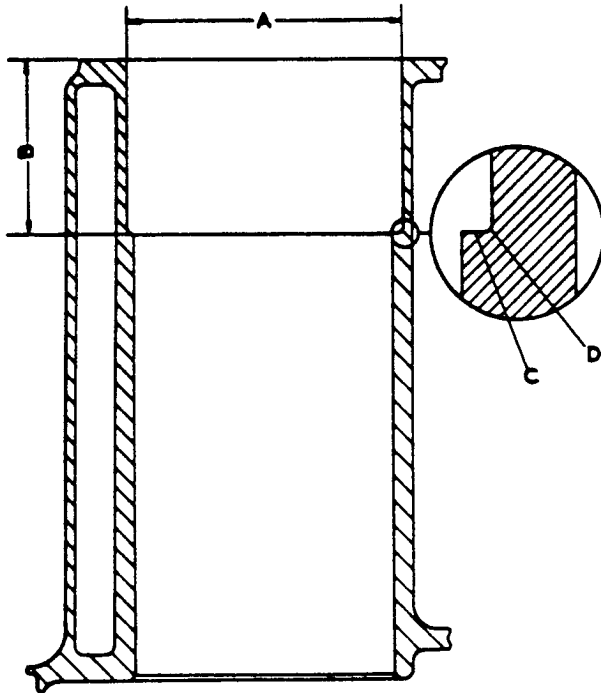
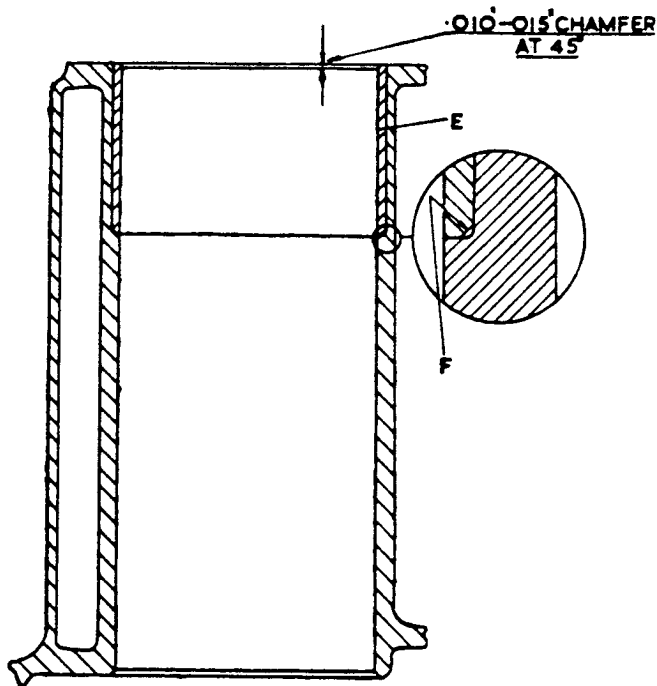

FIG.1. SECTION - CYLINDER-SHOWING COUNTERBORE.
FIG.2. SECTION - CYLINDER - SHORT LINER IN POSITION.
(1) To assist in obtaining the required interference of .0025" to .0035" (.06 to .09 m/m) between the liner and the cylinder counterbore, 'A' Fig.1, the liner RE-6017, is colour coded (graded) in the bore as follows:-
cylinder bore. Next, adjust the boring cutter so that the first cut is heavy enough to get underneath the original chromium plating and counterbore the cylinder to a depth of 2.245" to 2.250" (57.02 to 57.15 m/m). See 'B' Fig.1.
The bottom face, 'C' Fig.1, of the counterbore must be machined perfectly true. Any slight discrepancy on this end will cause a gap on one part of the "butt" joint.
- (v) Before pressing in the liners, ensure that the radius, 'D' Fig.1, is smaller than the chamfer ('F' Fig.2) on the lower end of the liners, so that there will be no interference at the butt joints when the liners are pressed fully home.
NOTE: If, when measuring the diameter of a counterbore ('A' Fig.1), it exceeds 3.6265" (92.11 m/m), it will be necessary to fit an R-4610 oversize short liner. This liner is marked with white paint and has an external diameter of 3.631" to 3.632" (92.23 to 92.25 m/m), and one should be selected that will not allow an interference exceeding .004" (.1 m/m), or less than .0025" (.06 m/m).
- (ix) With a half-round scraper, cut a .010" to .015" (.25 to .38 m/m) chamfer at about 45° at the upper end of each liner, as shown in Fig.2.
- (ii) With a half-round scraper, cut a $.010''$ to $.015'' (.25 \text{ to } .38 \text{ m/m})$ chamfer at about 45° at the upper end of each liner as shown in Fig.2.
If short liners ('E' Fig.2) have not been incorporated (on chassis prior to B-144-DA), it will be necessary to counterbore the unaffected (un-scored) cylinders at their upper end and fit a short Bricrome liner, RE-6017; irrespective to fitting twin liners to one or more of the bores.
- Bore out the short liner in stages, until it has a wall thickness of not more than $.015'' (.38 \text{ m/m})$. This operation must be carefully carried out in order that the boring cutter does not contact the cylinder counterbore. As a guide when boring, it should be borne in mind that the external diameter of the liner (in position) is $3.625'' (92.07 \text{ m/m})$ i.e. the same diameter as the counterbore 'A' Fig.1. From the upper face of the cylinder block, the liner should be bored to a depth of $2.250''$ to $2.255'' (57.15$ to $57.27 \text{ m/m})$.
- (ix) With a half round scraper, cut a .010" to .015" (.25 to .38 m/m) chamfer at about 45° at the upper end of the liner/s as shown in Fig.2.